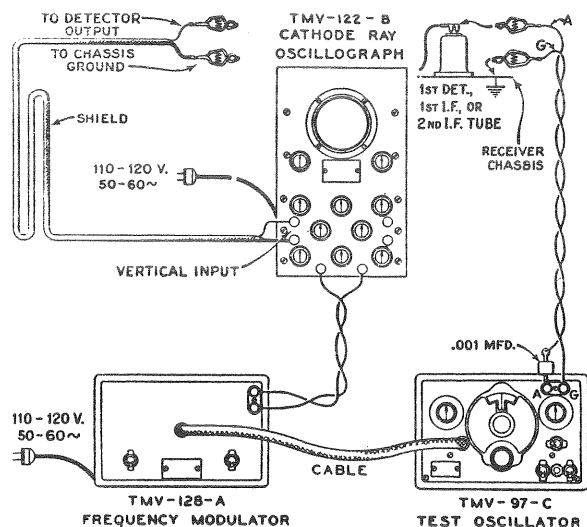

Figure 5—Alignment Apparatus Connections
Figure 5. A .001 mfd. capacitor installed in series with the Oscillator "Ant." lead will prevent the voltages of the stage under alignment from becoming upset. The vertical "A" amplifier should be "On" for the ensuing adjustments and the gain control kept at its maximum position. For each adjustment, the Oscillator output need be regulated so that the image obtained
- (b) Attach the output of the test Oscillator between the control grid cap of the RCA-6K7 i-f tube and chassis ground as shown typically by Figure 5. Tune the Oscillator to 460 kc. and set its modulation switch to "On". Regulate its output until the signal produces a wave pattern on the Oscillograph screen, adjusting the Oscillograph controls to give the desired number of cycles. Cause the image to stand still on the screen by manipulation of the frequency and synchronizing controls. Then carefully tune the two trimmers C-29 and C-30 of the second i-f transformer to produce maximum amplitude (vertical deflection) of the oscillographic image. Under this condition the transformer will be sharply resonated to 460 kc.
in operation and interconnected with the Full Range Oscillator by means of the special shielded patch cord. Figure 5 shows the proper arrangement. Set the Frequency Modulator sweep range switch to its "Lo" position and turn the Oscillator modulation switch to "Off". Change the timing control of the Oscillograph to "Ext." and place the range switch to its No. 2 position. Then carefully shift the tuning of the Oscillator so as to increase its frequency, until two distinct and similar waves appear on the Oscillograph screen and become exactly coincident at their highest points. These curves will be found to occur at an Oscillator setting of approximately 540 kc. They will be identical in shape but appearing in reversed positions. Adjust the frequency control of the Oscillograph in order to cause the waves to conform with the above requirements and to make them remain motionless on the screen. This will require a setting of approximately $\frac{1}{2}$ clockwise rotation of the frequency control. The trimmers C-29 and C-30 should then be re-adjusted so that the two curves move together and become exactly coincident throughout their lengths, maintaining the maximum amplitude at which this condition can be brought about.
(a) With the receiver range switch in its Band A position, tune the station selector until the dial pointer is at a reading of 1720 kc. Adjust the test Oscillator to 1720 kc. (modulation "On" and Frequency Modulator disconnected) and increase its output to produce a registration on the Oscillograph. Carefully align the oscillator, detector and antenna trimmers C-20, C-10 and C-3 respectively, so that each brings about maximum amplitude of output as shown by the wave on the Oscillograph. It will be necessary to have the timing control of the Oscillograph on "Int." for this operation. After each trimmer has been peaked, the Oscillograph timing control should be set to "Ext." and the Frequency Modulator placed into operation with its connections to the Oscillator and Oscillograph made in accordance with Figure 5. Turn the modulation switch of the Oscillator to "Off" and retune the Oscillator (increase frequency) until the forward and reverse waves show on the Oscillograph and become coincident at their highest points. Adjust the trimmers C-20, C-10 and C-3 again, setting each to the point which